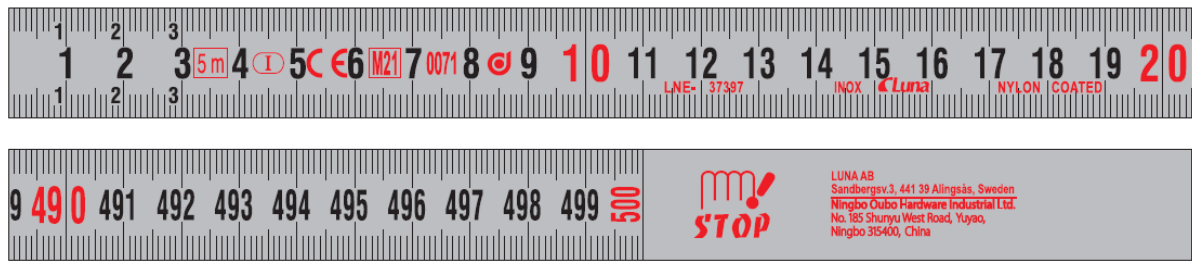

Figure 3 Blade in silver background and case model example
7.2 Having alternative model numbers identified as 270750102. The steel blade has a white background (Figure 3).
- Figure 3 Blade in silver background and case model example